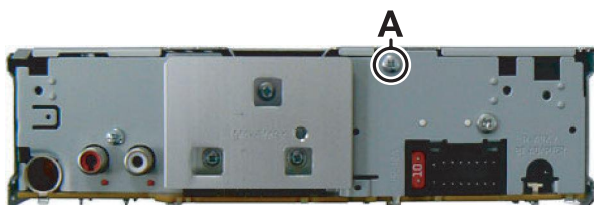

Fig.3
3.1.3 Removing the Electric unit (See Fig.3, 4 and 5)
- (1) Remove the 1 screw **A** attaching the Rear bracket. (See Fig.3)